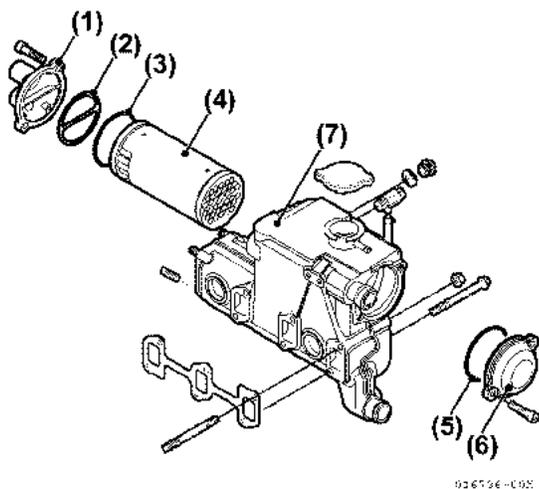
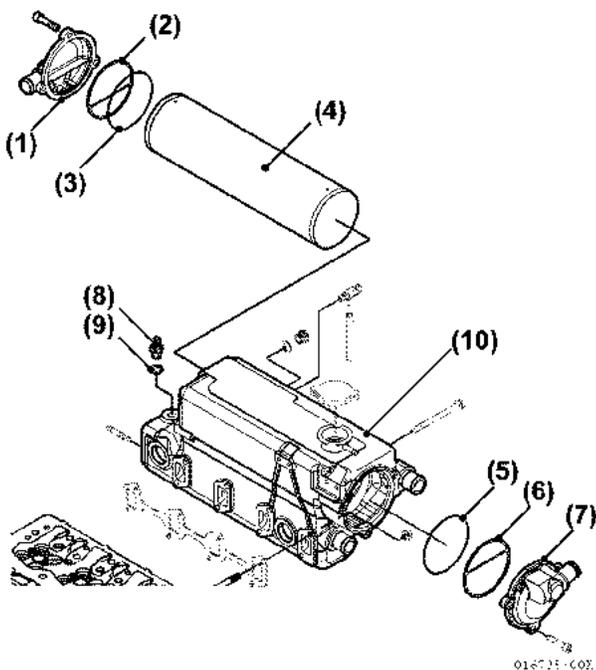

Figure 7-27
Figure 7-28
2. Remove outlet cover (**Figure 7-27, (1)**), (**Figure 7-28, (1)**) and gasket (**Figure 7-27, (2)**), (**Figure 7-28, (2)**).
3. Remove inlet cover (**Figure 7-27, (6)**) and (**Figure 7-28, (7)**) and gasket (**Figure 7-27, (5)**) and (**Figure 7-28, (6)**).
4. Pull core from housing (**Figure 7-27, (4)**) and (**Figure 7-28, (4)**).
5. Remove O-rings (**Figure 7-27, (3), (5)**), (**Figure 7-28, (3), (5)**).
6. Remove anode (**Figure 7-28, (8)**) and washer (**Figure 7-28, (9)**). **NOTICE: NEVER use caustic soda be used to clean the components. Use paraffin-based engine detergent to clean the cooler element. Thoroughly flush and rinse all components.**
8. **NOTICE: Always install new O-rings.** Install new O-ring (**Figure 7-27, (5)**), (**Figure 7-28, (5)**) on cooler core.
9. Install cooler core (**Figure 7-27, (4)**), (**Figure 7-28, (4)**), gasket and inlet cover (**Figure 7-27, (6)**), (**Figure 7-28, (6), (7)**).
10. Install O-ring (**Figure 7-27, (3)**), (**Figure 7-28, (3)**) on cooler core.
11. Install gasket and outlet cover (**Figure 7-27, (1), (2)**), (**Figure 7-28, (1), (2)**).
12. Install new anode (**Figure 7-28, (8)**) and washer (**Figure 7-28, (9)**). See *Draining and Filling Closed Cooling System on page 7-10.*